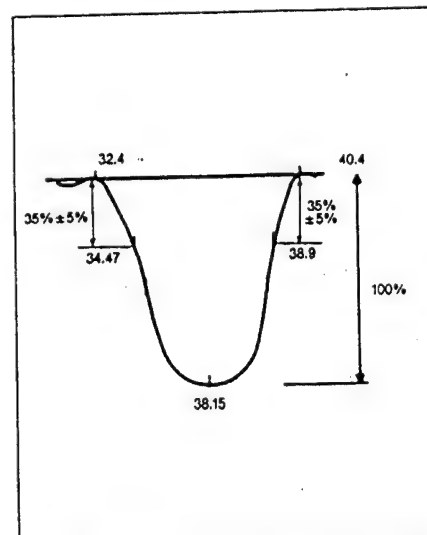

Fig. 15 Illustration for balance between 38.9 MHz and color signal
- 7) Adjust the Cors (FL410) in the Tuner Section shown in Fig. 15